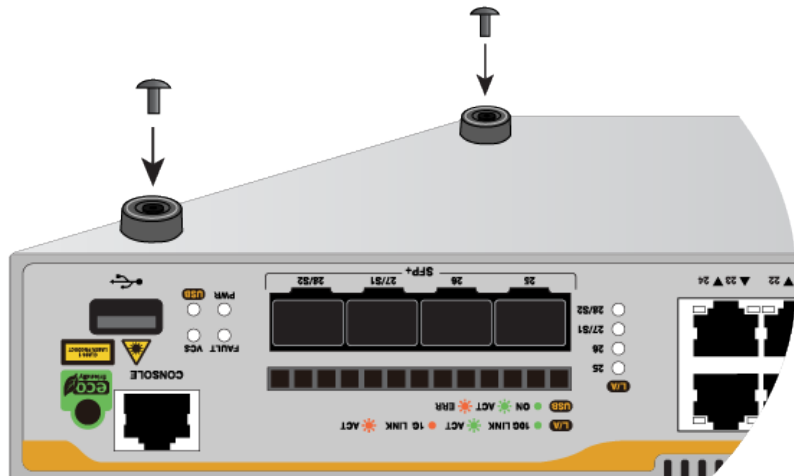

Figure 15. Inserting the Rivet into the Bumper Foot
5. Insert the rivet to secure the bumper foot to the base. See Figure 15 on page 52.